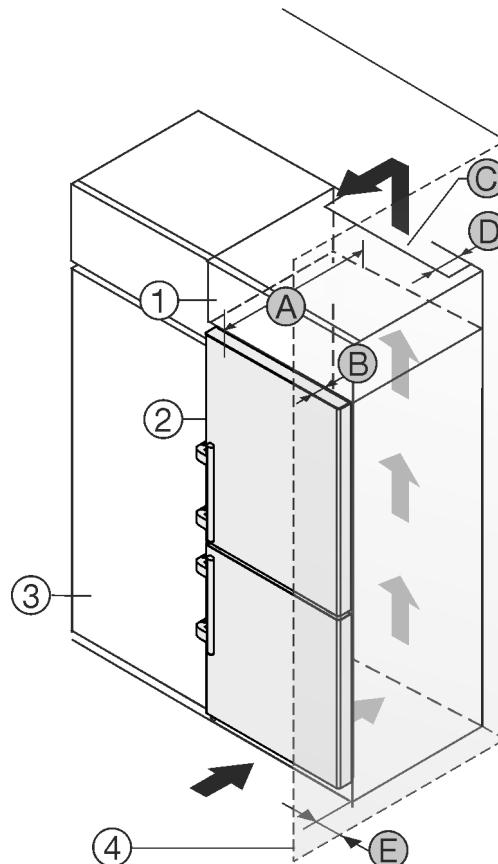

Fig. 2
Set up the appliance directly next to the kitchen cabinet Fig. 2 (3).\*
There must be a ventilation shaft at the depth Fig. 2 (D) of the back of the top cupboard over the entire width of the top cupboard.\*
The cross section of the ventilation gap Fig. 2 (C) must be maintained below the ceiling.\*
If the appliance is installed with the hinges next to a wall Fig. 2 (4), the distance between the appliance and the wall must be at least 57 mm (2.24 in). This is how far the handle protrudes when the door is open.\*
In order to be able to fully open the door, the appliance must protrude by the depth Fig. 2 (B) of the door from the front of the kitchen cabinet. Regardless of the depth of the kitchen cabinets Fig. 2 (3) and use of wall spaces, the appliance can protrude further.\*